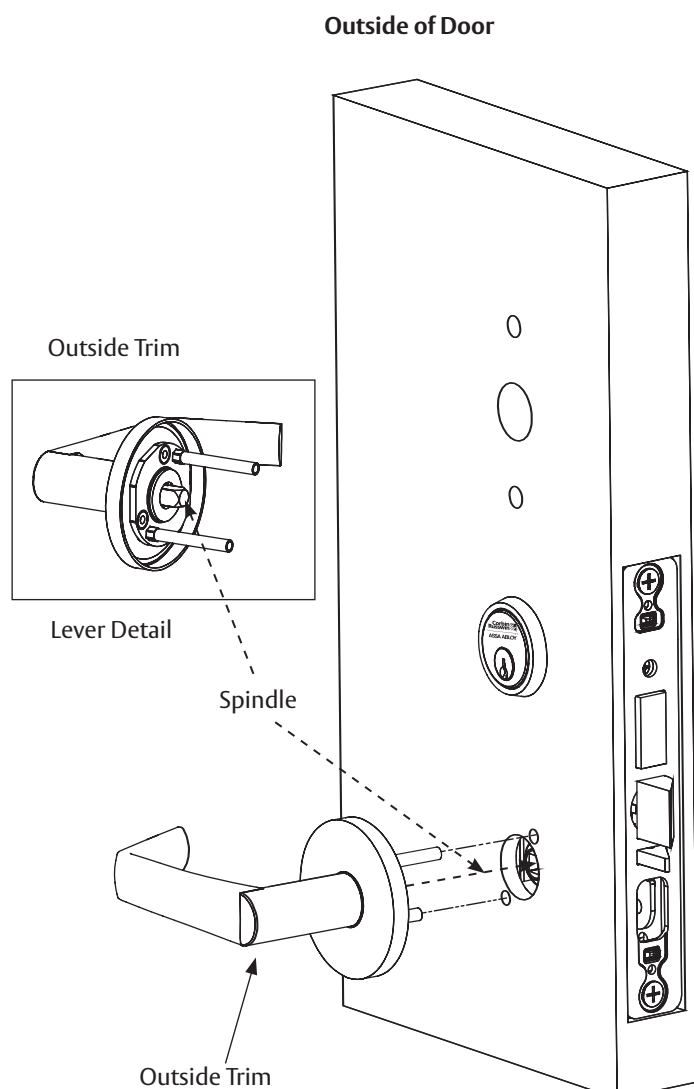

Figure 7-6A
1. With outside lever horizontal, insert the mounting posts through outside of door and lock body. Make certain the lever spindle is properly engaged inside the lock body. (Figure 7-6A)